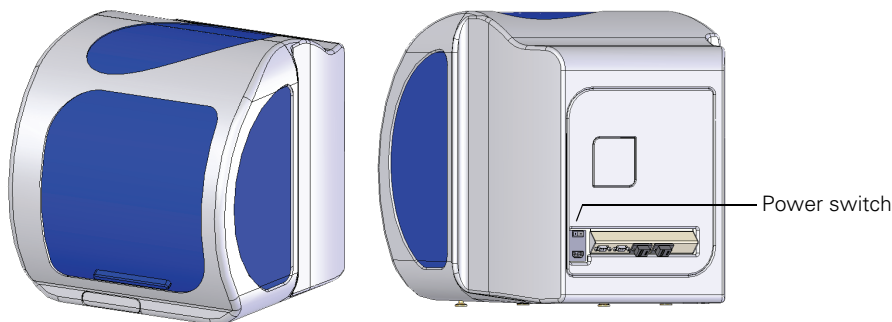

Figure 2.2 Octet System, front view (left) and rear view (right)
2. Turn on the Octet instrument using the power switch located on the rear panel (Figure 2.2).